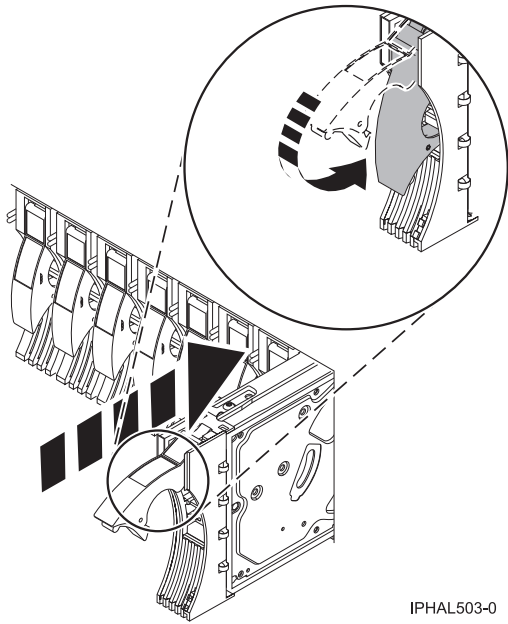

Figure 40. Installing a disk drive in the
8. Push the disk drive handle in until it locks, as shown in Figure 40 on page 54.